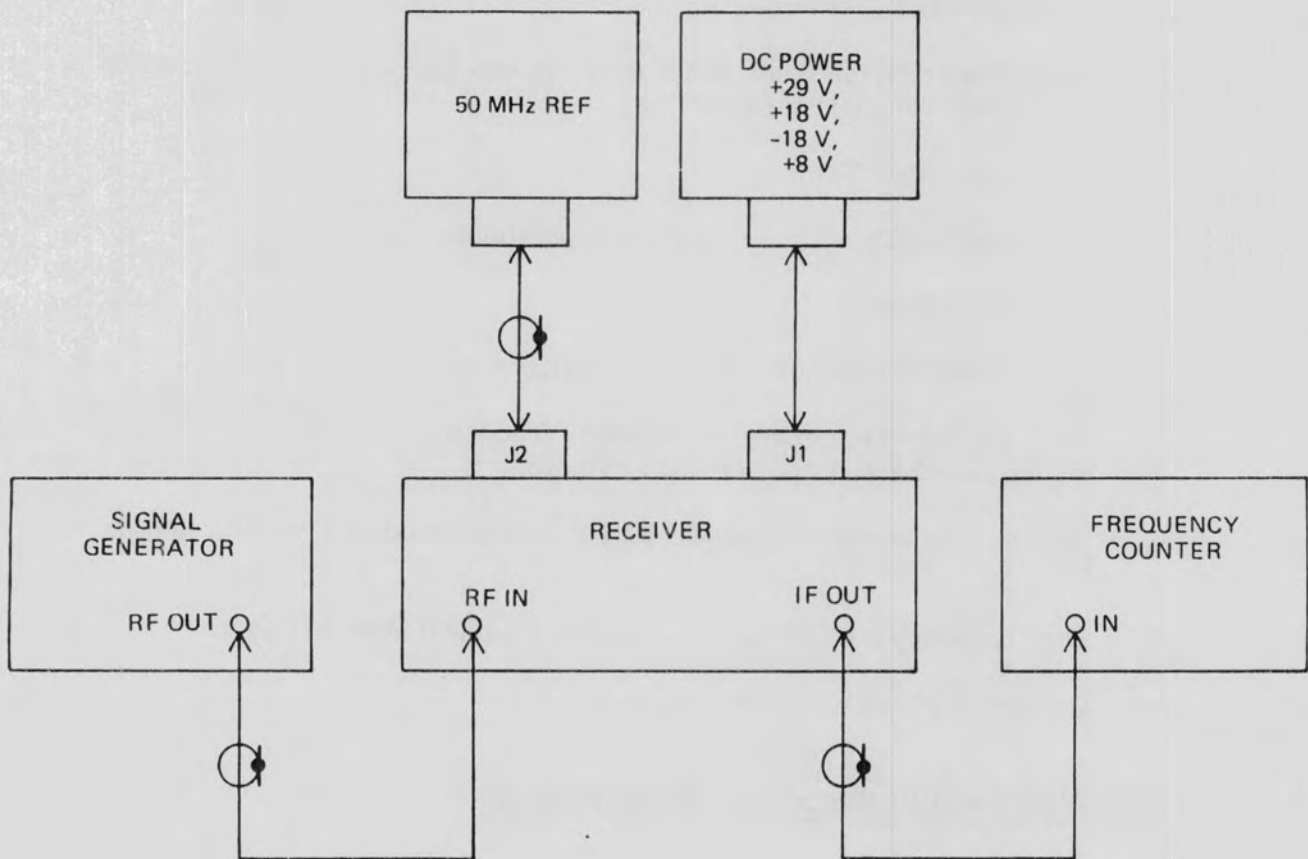

Figure 4-7. Frequency Tuning Accuracy Test Equipment Setup
1. Connect the receiver as shown in **Figure 4-7**.